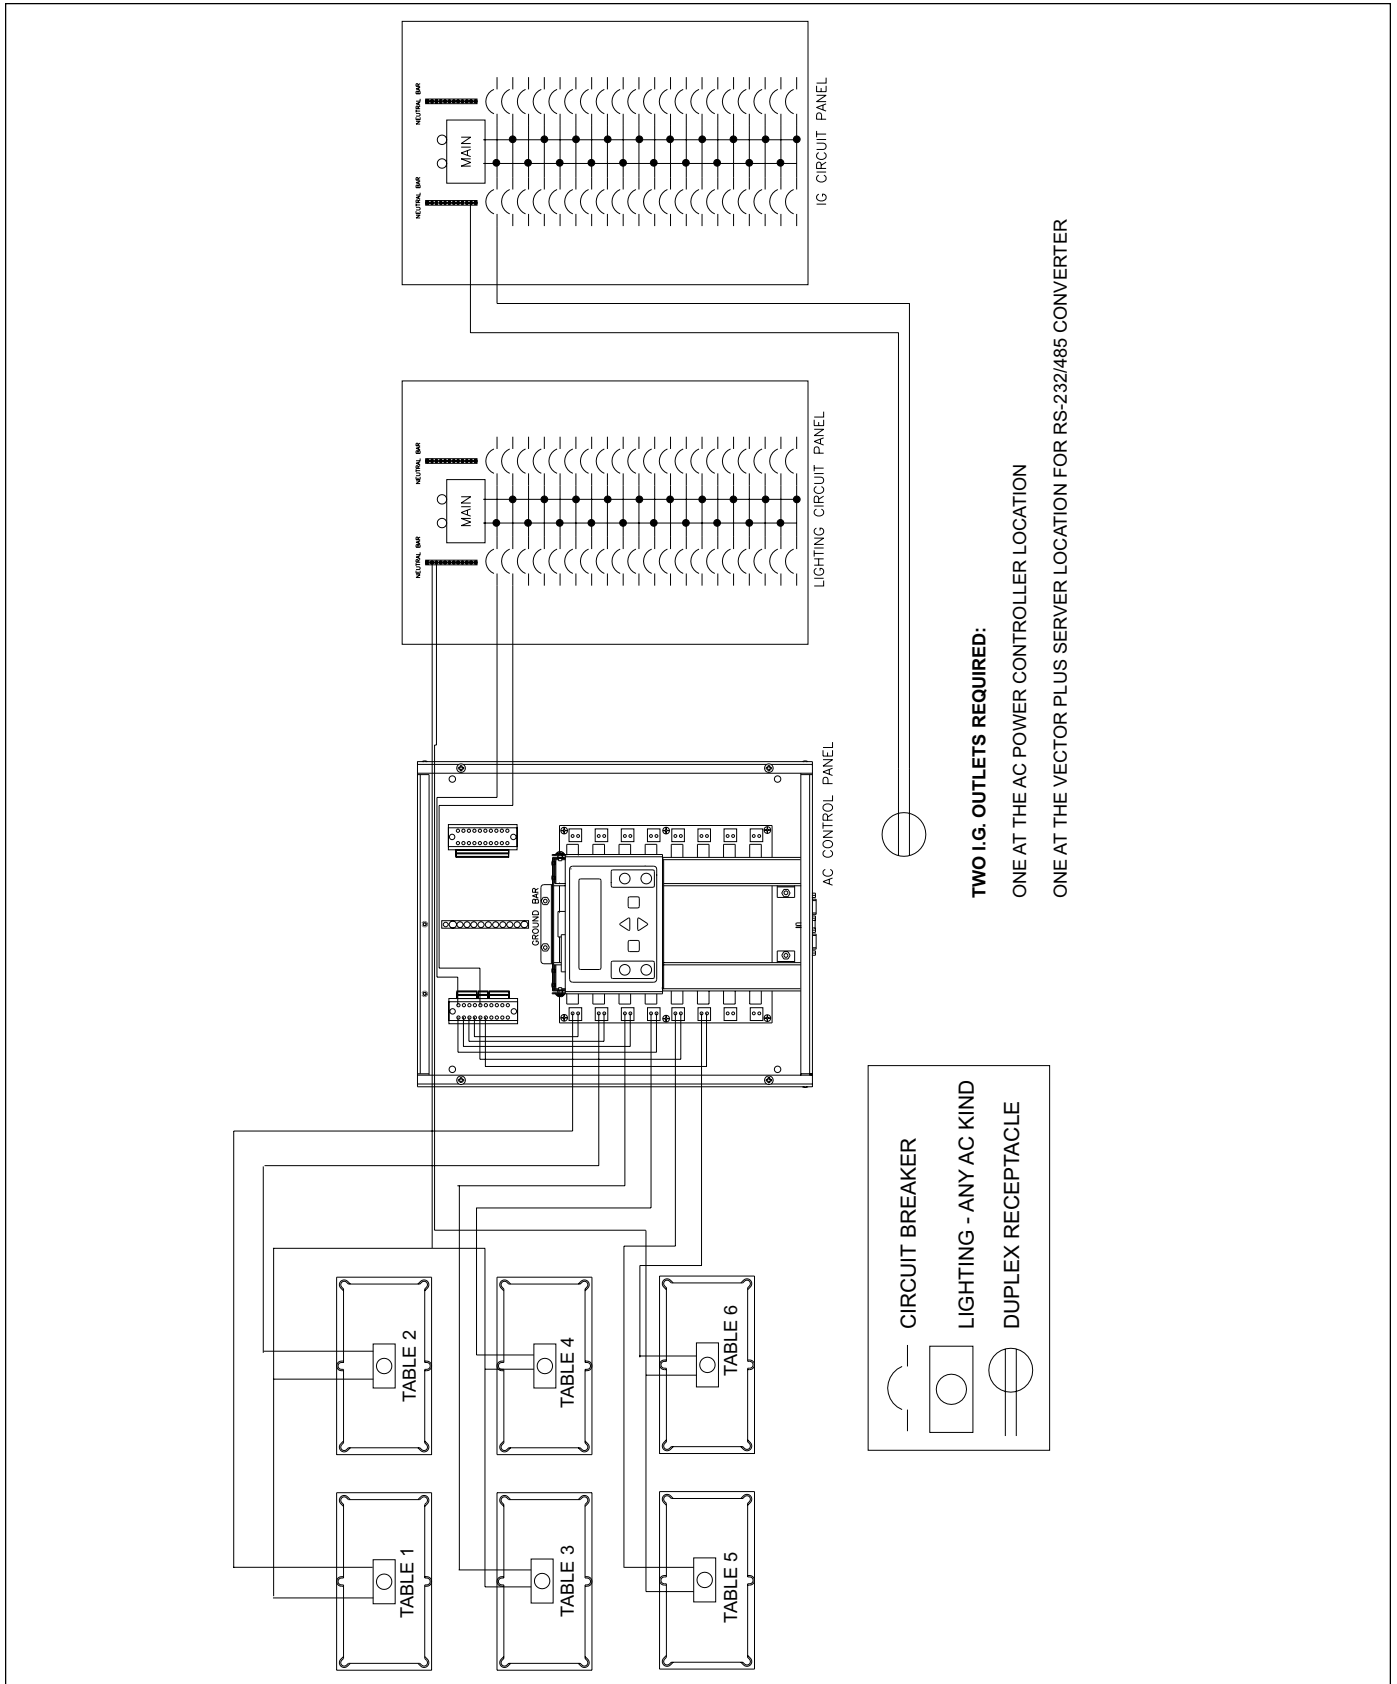

Figure 2. New Installation Schematic
1. Route the line wire from the lighting circuit panel to the AC Power Controller. Refer to *Figure 2*.
2. Connect the line wire from the lighting circuit panel to the terminal blocks. Refer to *Figure 2*.